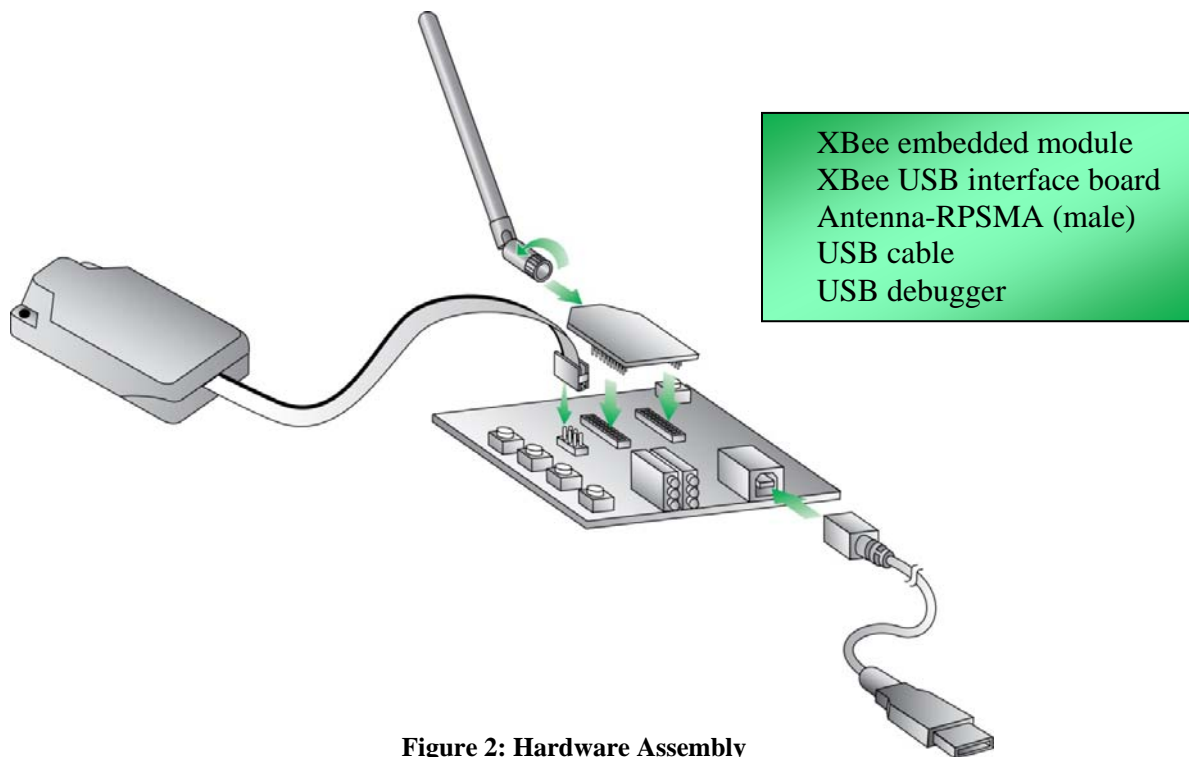

Figure 2: Hardware Assembly
1. Plug the XBee-PRO ZB programmable module into the headers on the XBee USB interface board as shown in Figure 2. The antenna will be at the top of the interface board when held so that the USB connector is at the bottom of the board. Do not power up the unit by plugging in the USB cable to the PC at this stage.